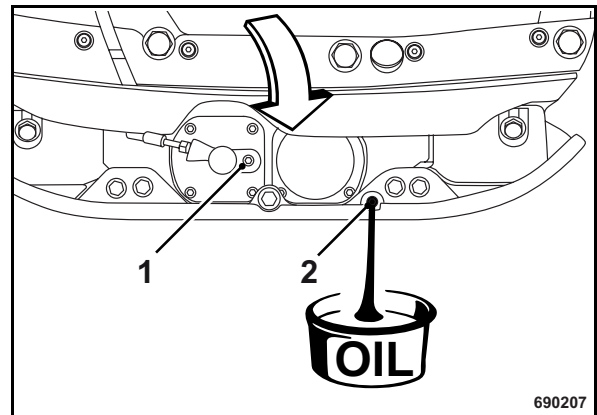

Fig. 65
- Unscrew ventilation (1) (Fig. 65) and level inspection plugs (2).